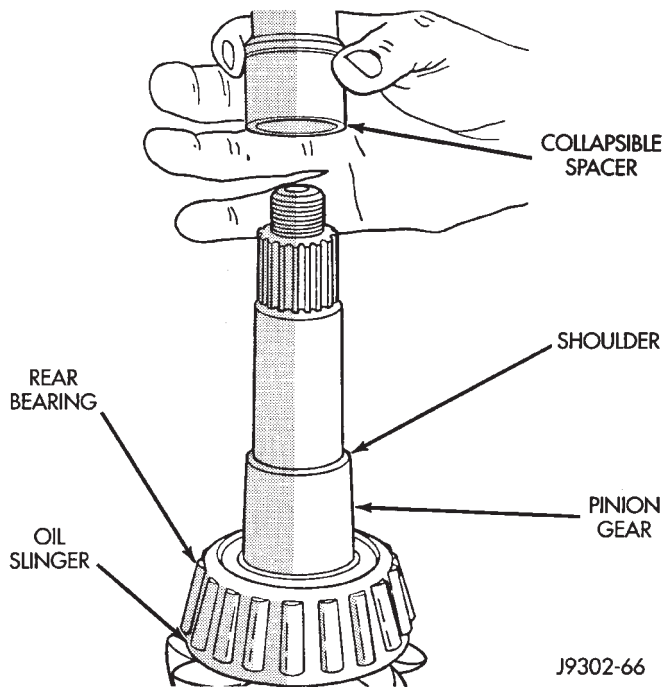
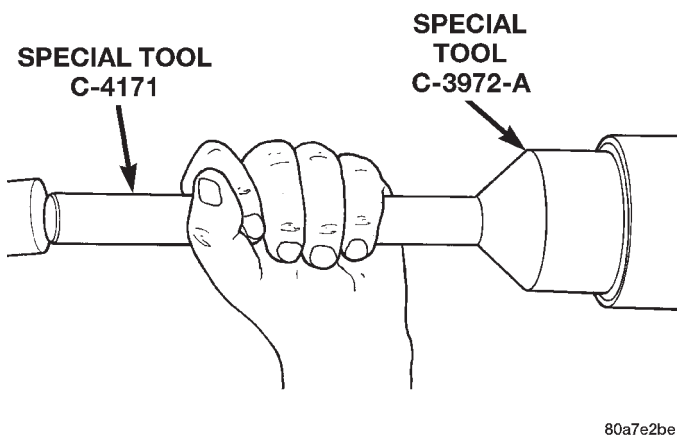

Fig. 16 Collapsible Preload Spacer
Fig. 17 Pinion Seal Installation
- (1) Install a new collapsible preload spacer on pinion shaft (Fig. 16).
- (2) If pinion gear was removed, install pinion gear in housing.
- (3) Install pinion front bearing, if necessary.
- (4) Apply a light coating of gear lubricant on the lip of pinion seal. Install seal with Installer C-3972-A and Handle C-4171 (Fig. 17), if necessary.
- (5) Install pinion companion flange with Installer W-162-D, Cup 8109, and Flange Holder 6958.